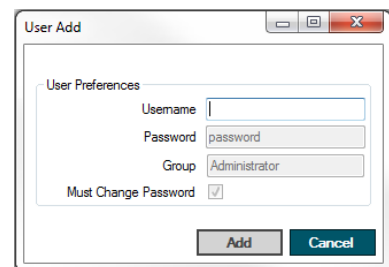

Figure 62 - “User Add” window
**“Set Password”:** This option enables the Password of an Existing User to be changed. Check the Set Password Check box and a New Window will open (refer to Figure 62) prompting for a New Password and to Re-Type the New Password to validate it and click “OK”. The New Password should abide by the System Policy settings. Refer to System Policy for further information.